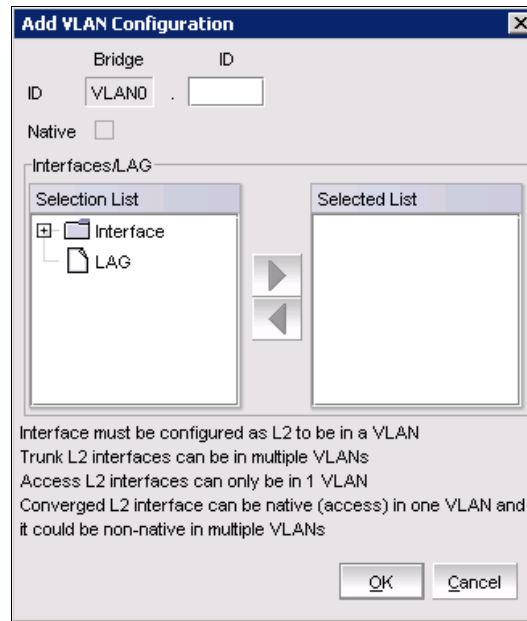

Figure 5-27 VLAN Configuration dialog box
2. Click **Add**. The VLAN Configuration dialog box is displayed (Figure 5-27).